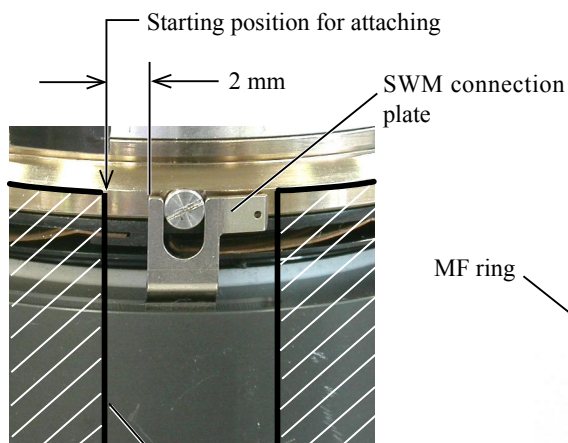

Fig. 1
- Attach the distance scale seal at a location 2-mm left from the edge line of the SWM connection plate. (ref. Fig.1)